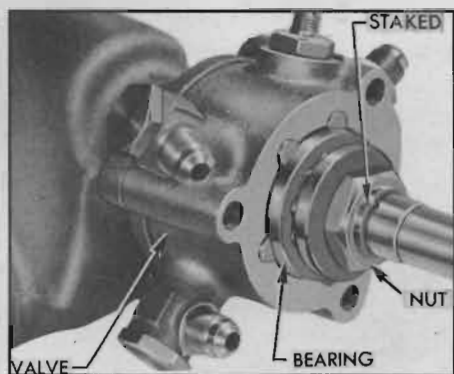

Figure 7-24—Thrust Bearing and Nut
11. Remove hydraulic valve cover. Drive up edge of worm bearing nut where staked into worm shaft keyway, using suitable punch, then remove nut and thrust bearing. See figure 7-24. NOTE: Nuts on first jobs are locked with tangs of a lockwasher.
Stake outer edge of worm bearing nut down into keyway of worm shaft (fig. 7-24), making sure that nut does not turn from its adjusted position.